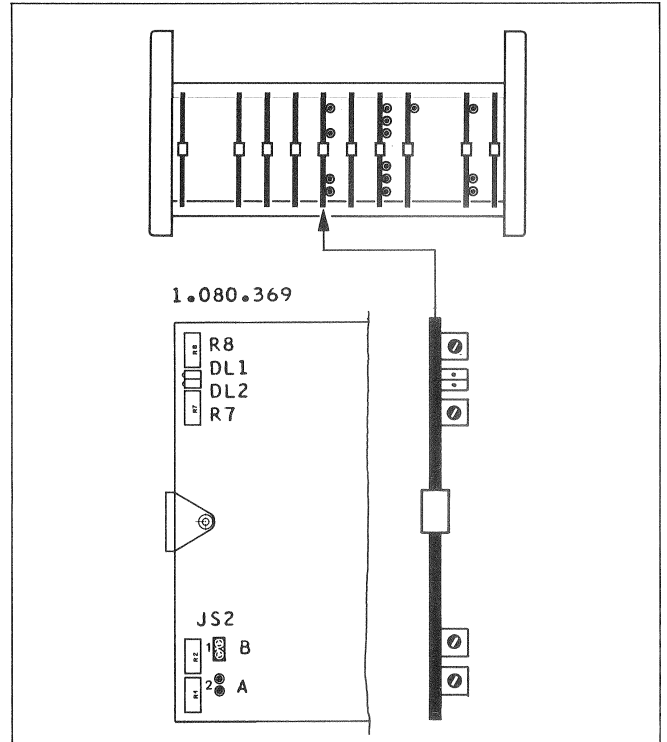

Fig.4.5
-> Fig.4.5
Reset jumper JS2 to position "A": (disables reverse PLY mode). -> Fig.4.5
- > Section 4.2.3, Fig.4.5